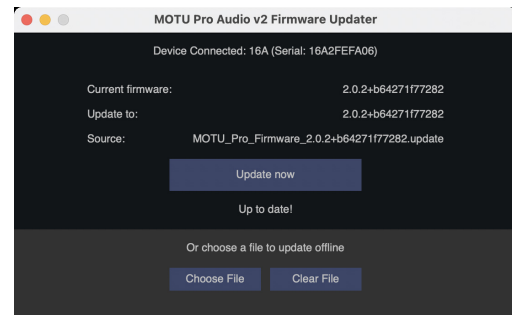

Figure 6-11: The 10pre Firmware Updater app.
☞ This step requires that the unit already has firmware version 2.1.5 or later. If not, use the Firmware Updater app (Figure 6-11 on page 60), accessed from the File menu.
- 1** Choose *File menu > Open Firmware Updater* to launch the updater app (Figure 6-11).
- 3** Once the firmware image is loaded, click the *Update Now* button (Figure 6-11).